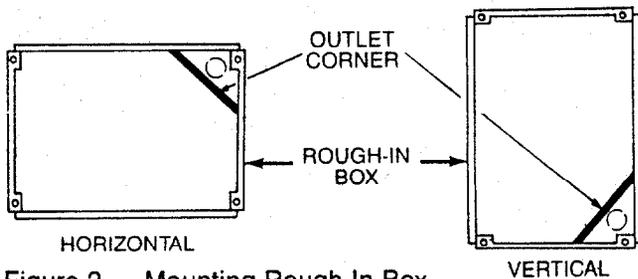

Figure 2 — Mounting Rough-In Box
1. Horizontal mounting: (See Figure 2)
2. Vertical mounting: (See Figure 2)